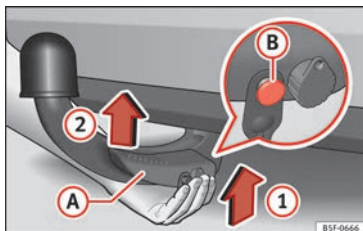

Fig. 236 Fitting the detachable ball / Release bolt in the deployed position.
- Grip the detachable ball **from below** **»» Fig. 236** and insert it into the hook hous-